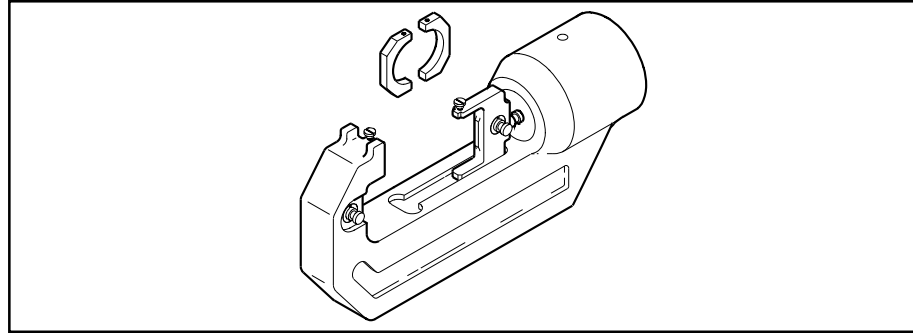

Figure 4–2. Stanley SE4 C-head configuration.
- loosen the 2 die retainer screws (identified as the top screw and bottom screw, respectively, in the Parts List), one on top of the C-head and the other on top of the piston die holder (Figure 4–2)